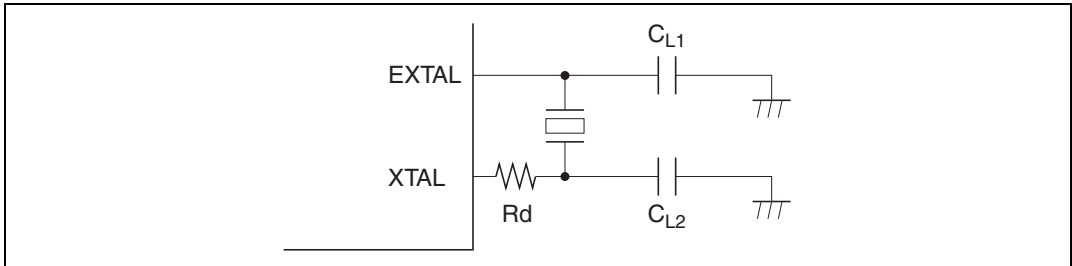

Figure 17.2 Connection of Crystal Resonator (Example)
Circuit Configuration: A crystal resonator can be connected as in the example in figure 17.2. Damping resistance R_d should be selected according to table 17.1 (1), and external capacitances C_{L1} and C_{L2} according to table 17.1 (2). An AT-cut parallel-resonance crystal should be used.